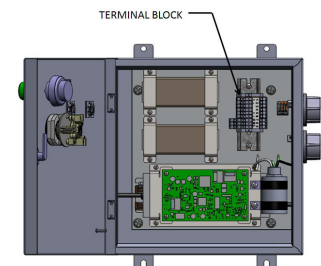

Figure 2
2. Locate the terminal block per Figure 2 or 3.
- b. Locate the dimming control signal input terminal block per Figures 2 and 3.